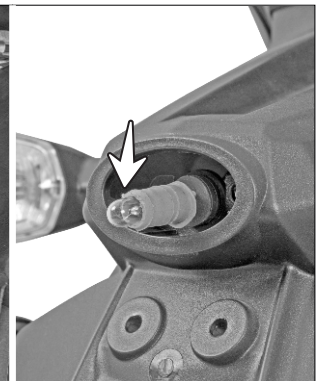

Fig. 5.61B
- Pull out bulb holder along with the bulb. (Fig. 5.61B)